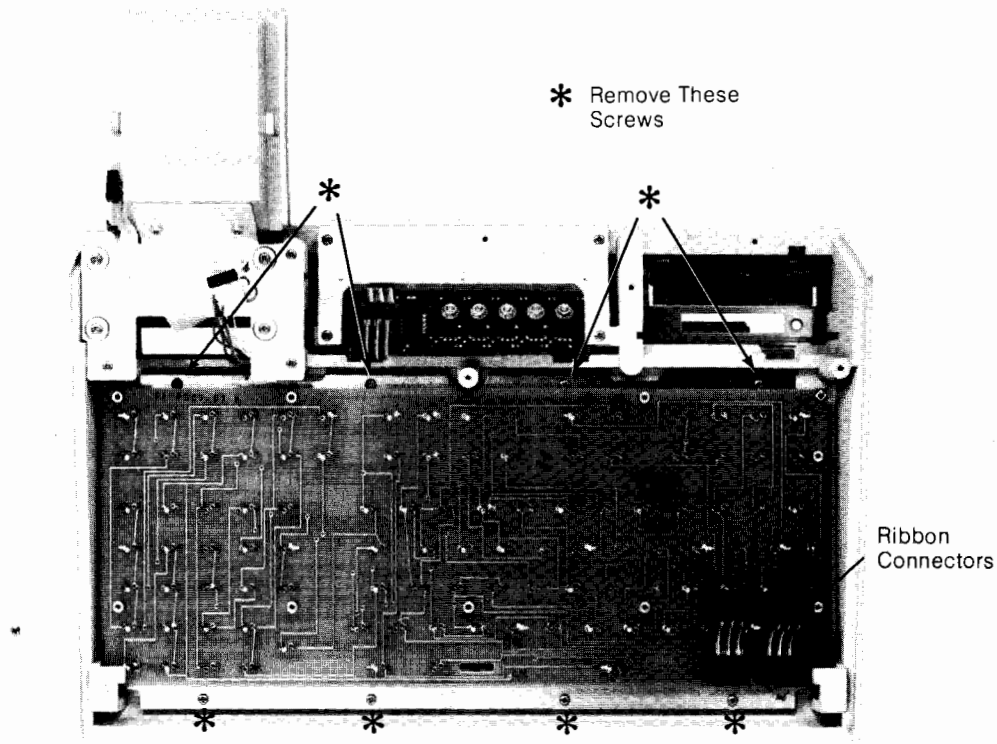

Figure 2-10 Key Switch Assembly Removal (9825A shown)
4. The key switch assembly can be removed by pressing the front edge down (as viewed in Figure 2-10) and sliding it forward until the rear tabs are free.
The key switch assembly can be removed with any or all other assemblies still in place on the bezel. Figure 2-10 shows them removed. Older revisions of the KDP assembly (HP part number 09825-66532) are of a different shape; holes in that assembly provide access to key switch screws.